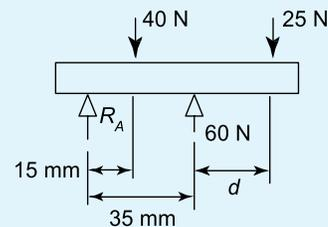

Figure 5.9
- The forces acting on a beam are as shown in Figure 5.9. Neglecting the mass of the beam, find the value of R_A and distance d when the beam is in equilibrium.